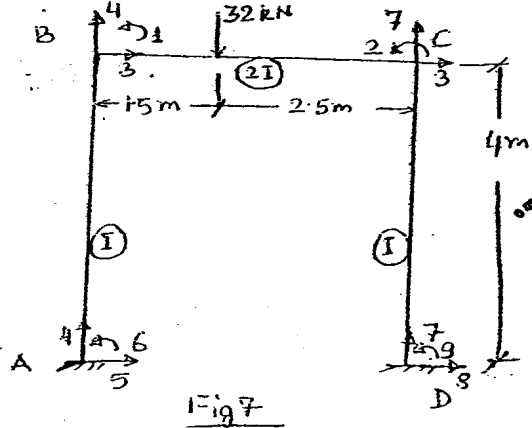

Fig 7
Q.6 Identify the unrestrained and restrained displacement matrices for the plane rigid frame shown in Fig.7. The co-ordinates are to be numbered as shown. Determine member end actions by stiffness matrix method. Plot B.M. Diagram on tension side. (12.5)